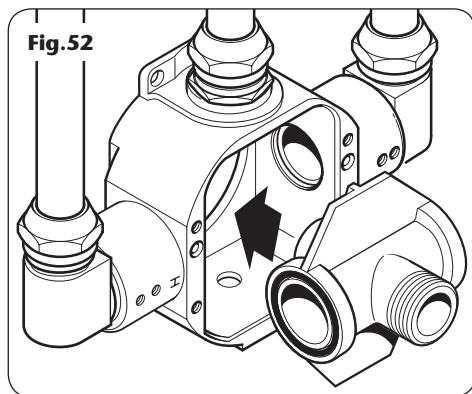

Fig.52
- f. Push the flushing cartridge into the housing (**fig.52**). Attach a hose to the flushing cartridge outlet and make sure it is directed to waste. Flush the pipes clean.